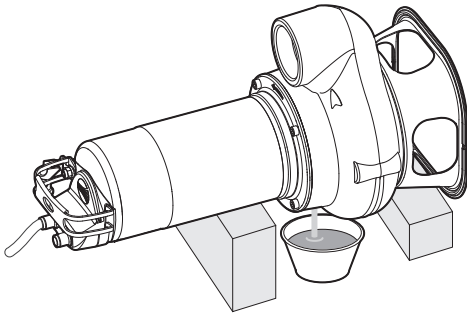

Fig. 9.2
- turn the pump through 180° to drain off the oil into a specific collection tray (Fig. 9.2);